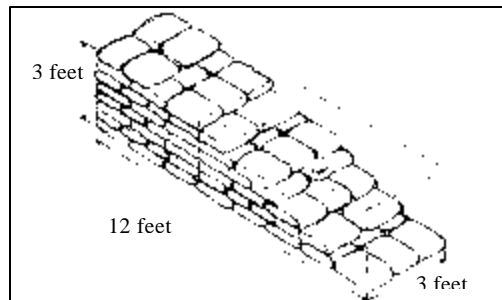

Figure 79. Interlocking sandbags.
- (3) When building a barricade, the sandbags must be interlocked for stability. See Figure 79. Sandbags that are not interlocked will reduce protection and make the barricade unstable.